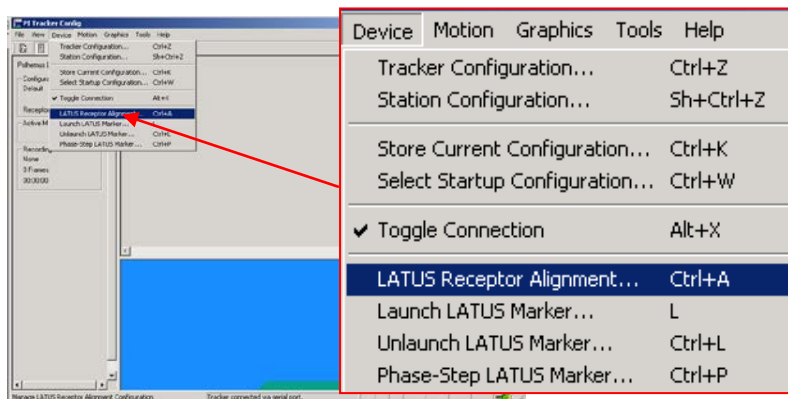
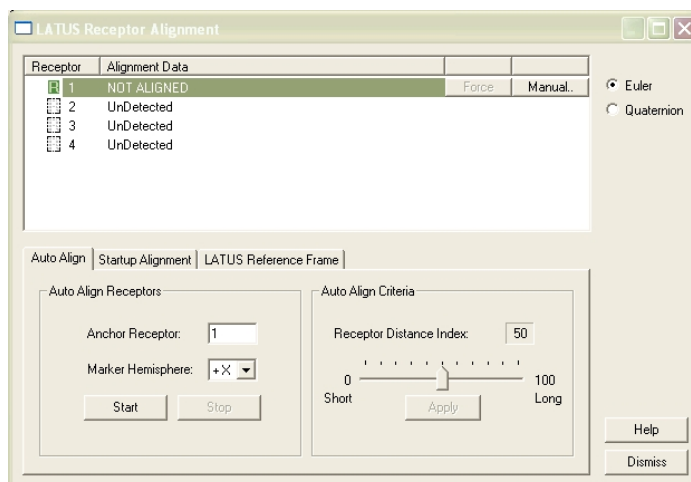

Figure 1-32: PiMgr Device Menu – Receptor Alignment
Figure 1-33: Receptor Alignment Dialog
1.5.6 To track a wireless marker, LIBERTY LATUS receptors must be *aligned*. If receptors are not aligned, the PiMgr *Status Pane* will indicate this, as in Figure 1-32.
To automatically align the sole “Getting Started” receptor, display the *LIBERTY LATUS Receptor Alignment* dialog (see Figure 1-33). Open this dialog via the **Device** menu: **Device** ⇒ **LATUS Receptor Alignment** (see Figure 1-32) or type the ‘**^A**’ – **Receptor Alignments** keyboard shortcut (page 102) in the PiMgr window.